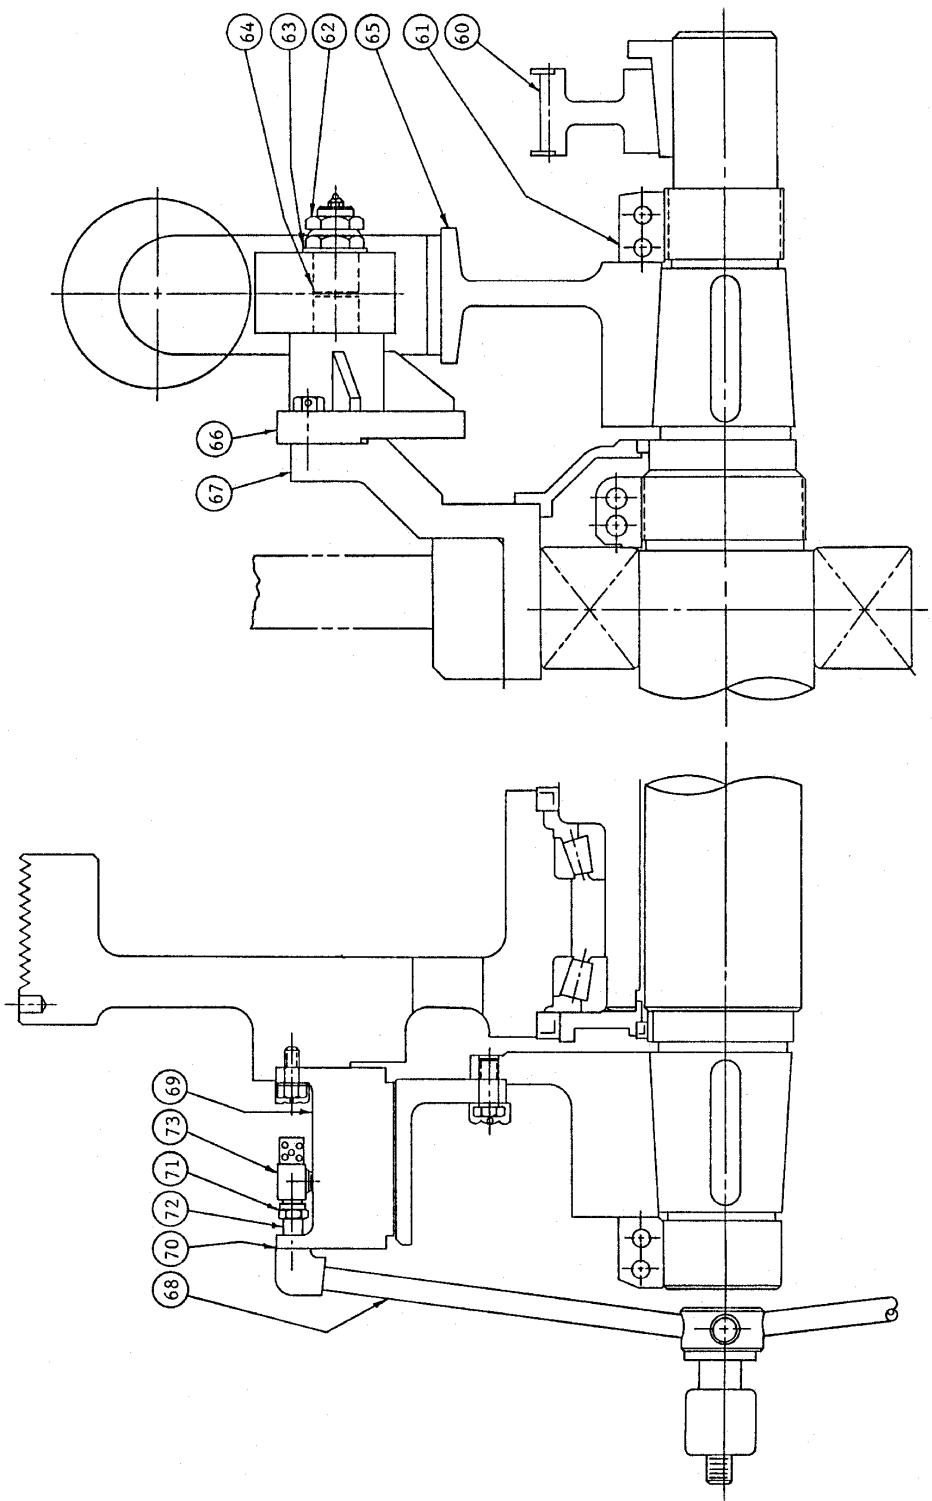

Figure 2
- 1.2.1 Throughout this manual a number given in parenthesis (#) refers to parts identified in and **Figure 1 and Figure 2** & Table 1.
- 2.1.1 Referring to **Figure 2**, remove the lube oil rotary union (not shown), the timing belt (not shown), the timing belt sheave (60), and the locknut (61). Disconnect the air supply line from the brake cylinder.